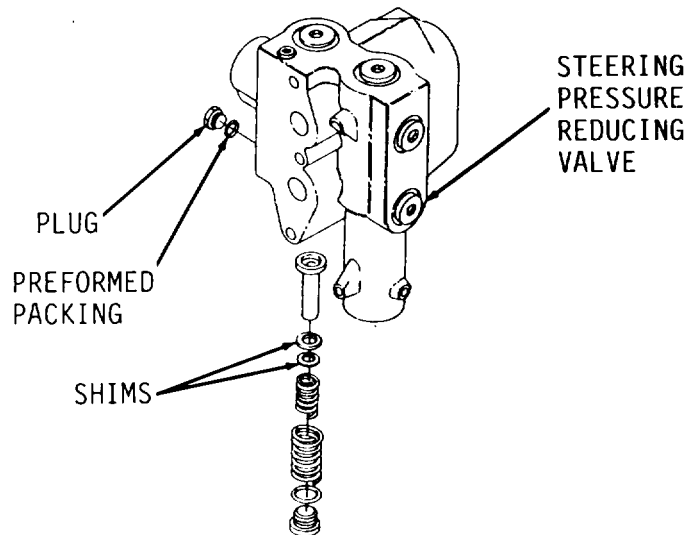

Figure 8-1.
Step 1. Check steering pressure reducing valve. Reducing valve is part of steering combination valve. Vent hydraulic system. Refer to LO 5-3805-261-12. Remove plug and preformed packing from reducing valve (Figure 8-1). Install multi-range pressure gage. Start engine and operate all implements to raise temperature of hydraulic oil to 145 to 150 degrees F. Refer to TM 5-3805-261-10. Increase engine speed to 1500 rpm. Pressure gage should read 1800 to 1850 psi. Stop engine.
If pressure is within limits, go to Step 2. To change pressure, add or remove shim(s) as required (Figure 8-1). One shim will change pressure approximately 25 psi. Refer to paragraph 8-7.